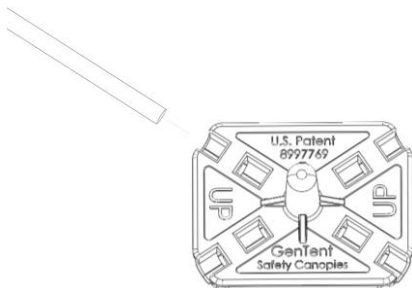

Fig. 3.1
- b. Insert the first frame rod into the center connector, ensuring it is seated all the way into the connector. (Fig. 3.1).